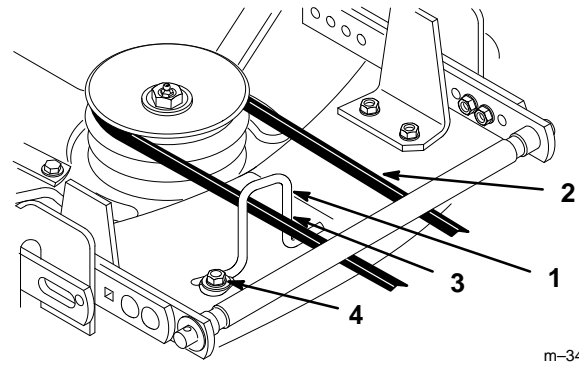

Figure 13
- 9. Loosen the belt guide bolt (Fig. 13).
- 10. Adjust the belt guide so that it just touches the belt on the inside arm of the guide (toward the center of the deck) (Fig. 13).